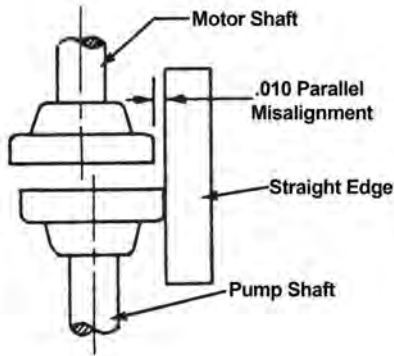

Fig. 2
- 1. Check **Parallel Alignment (Fig. 2)** by placing a straight- edge across the two coupling flanges and measuring the maximum offset at various points around the periphery of the coupling. If